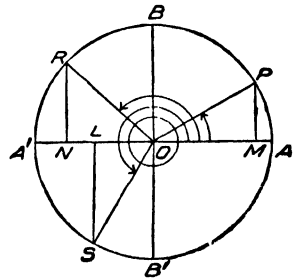

Fig. 7.
22. Functions of 0° . Let Fig. 7 represent a circle with a radius equal to unity. Let AOP be an angle in the first quadrant.
23. Functions of 90° . Let OP (Fig. 7) be revolved until it coincides with OB . Then $\angle AOP$ becomes 90° , $OM = 0$ and $MP = OB$.
24. Functions of 180° . Let AOR (Fig. 7) be an angle in the second quadrant.